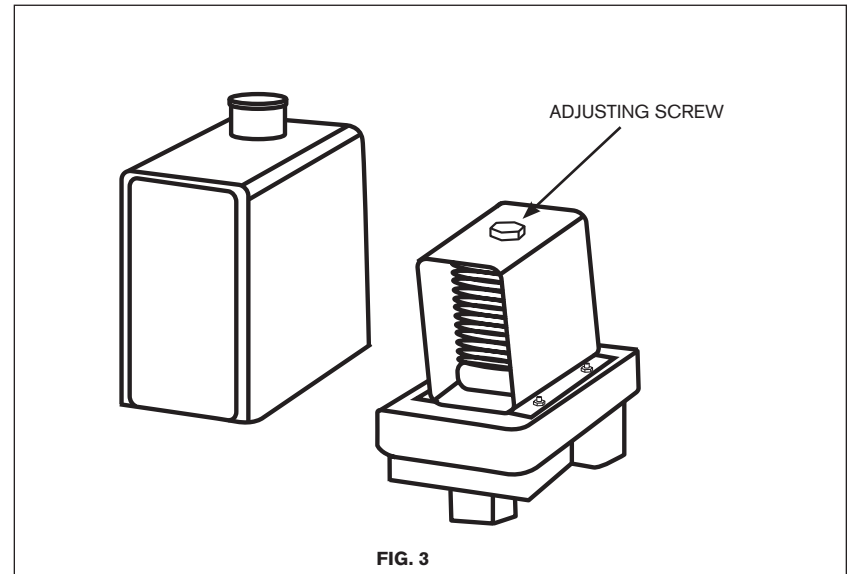

FIG. 3
1. The compressor is controlled by pressure switch when normal working. It can be stopped automatically as pressure increasing to the max and restart as pressure decreasing to the min. The rated pressure has been adjusted when produced. Don't change it carelessly. As soon as motor switched off the compressed air in the discharge pipe should be released through the release valve under the switch. This is the necessary condition for restart, or the motor will be damaged. The rated pressure can be adjusted by turning the adjusting bolt of the switch (Fig.3).
2. The output pressure of compressed air can be adjusted by regulating valve. Pull up the knob of regulation valve and turn it clockwise or counterclockwise to increase or decrease the pressure (Fig.3).